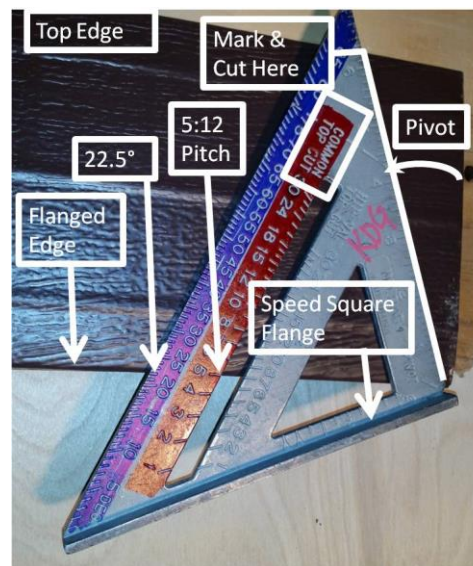

Figure 11-15. Marking Gable Eave End Fascia Angle.
8. Position the flange of a speed square along the soffit flange (or along the edge where the LONG point will be) as seen in Figure 11-15. With the square corner of the speed-square against the edge at the length desired, pivot the speed-square at the 90° corner until the “5” on the “Common/Top Cut” (red) scale is aligned with the same edge (e.g. flanged edge). Draw a line along the short edge of the speed square on the face of the fascia.